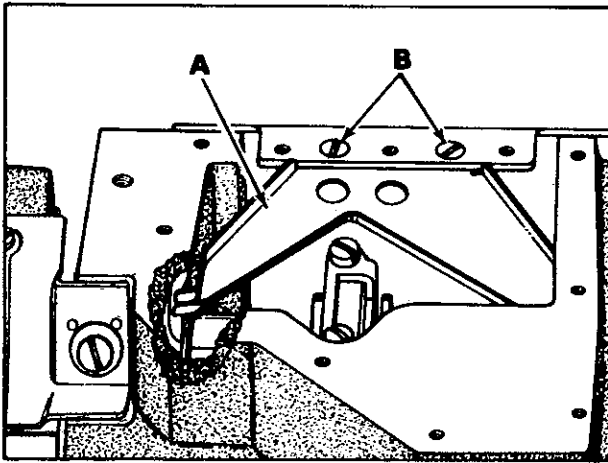

Fig. 18
The oil drip plate (A, Fig.18) located in the oil reservoir should be positioned with its tip in the recessed cut out in the bed casting, as far to the left as possible without touching. It has elongated mounting holes and can be adjusted by loosening (2) screws (B) in top of the oil reservoir back cover to position as required, retighten screws.